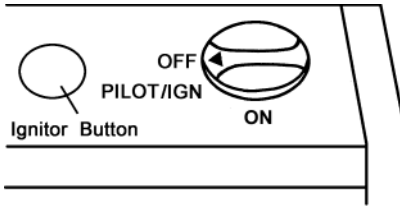

Figure 15 - Control Knob In The OFF Position HR06MN
3. Push in gas control knob slightly and turn clockwise  to the OFF position (see Figures 15&16).
4. Wait five (5) minutes to clear out any air. Then smell for gas, including near the floor. If you smell gas, STOP! Follow "B" in the safety information on the side of the heater. If you do not smell gas, go to the next step.
5. Push in gas control knob slightly and turn counterclockwise  to "PILOT/IGN" and depress for five(5) seconds